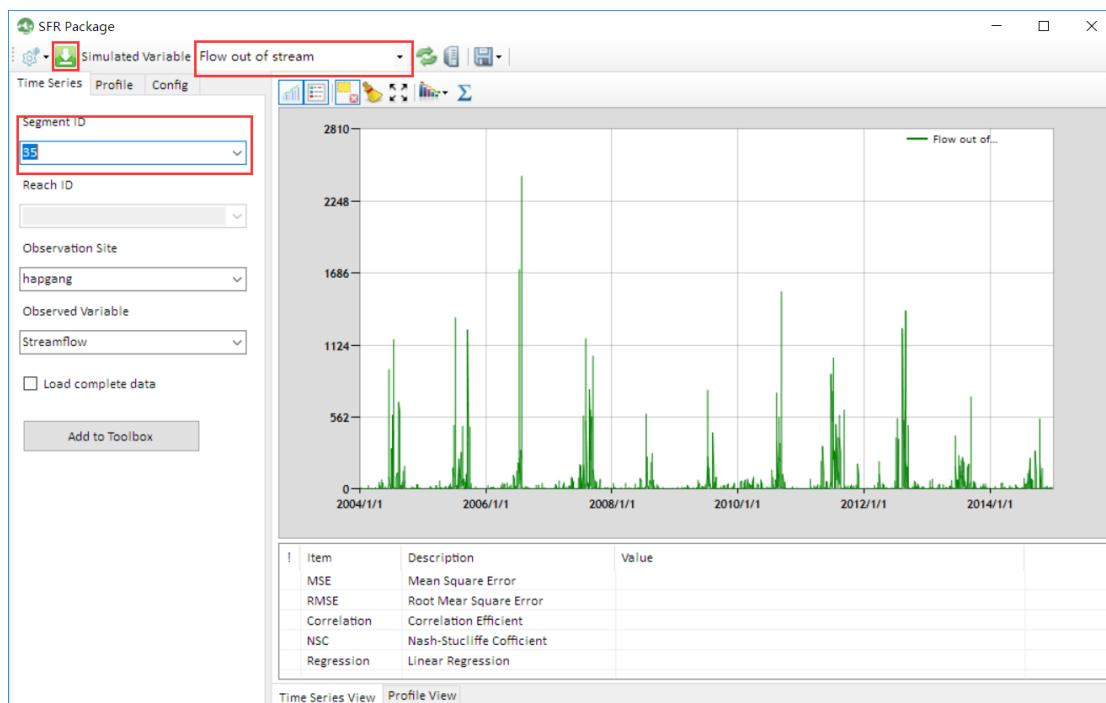

Figure 8-2. Simulate daily streamflow at the outlet of the Miho catchment.
- 3) Select “Flow out of stream” in the Simulate Variables combobox. Select “35” from the combobox below the Segment ID. Then daily streamflow simulated at the outlet of Miho catchment is shown using line curve (Figure 8-2).